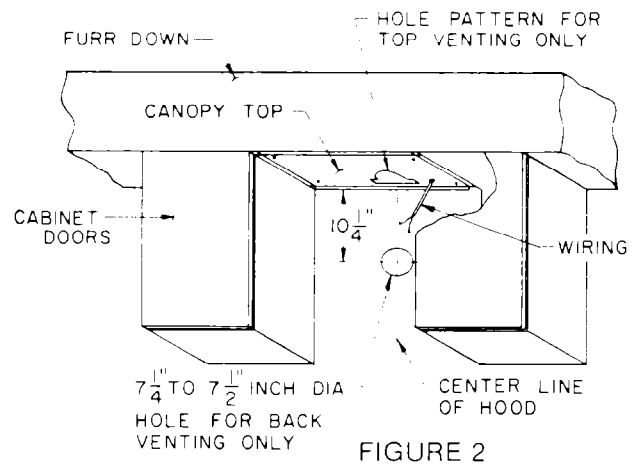

FIGURE 2
2. **FOR TOP VENTING:**(Figures 2, 7 & 8)
- FOR WALL VENTING:** (Figures 2 & 9) Establish center line for the hole pattern by measuring half the width of the canopy and 10 $\frac{1}{4}$ " from the top of the canopy. Make a 7 $\frac{1}{4}$ " diameter hole through the wall. Mark and cut hole for wiring. Flanged hole is provided in canopy top for wiring entrance.
FOR WALL VENTING: Establish the center for the back vent hole by measuring half the width of the hood and down 10-1 $\frac{1}{4}$ " from canopy top. See Figures 2 and 9.